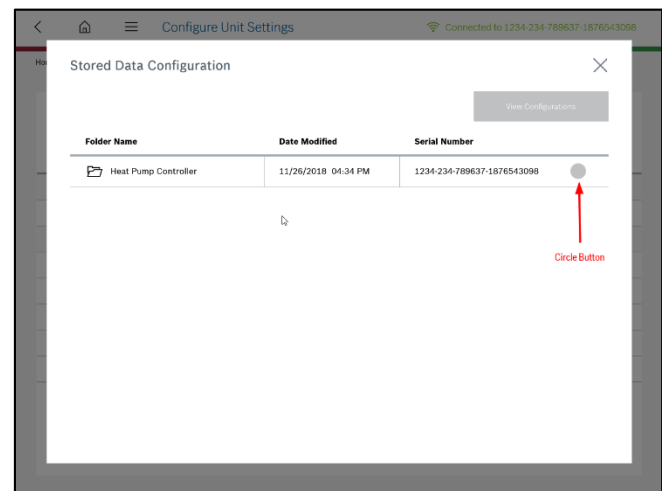

Figure 34: Saved Configuration
2. It will open up the page where the list of saved folders will be displayed. See figure 34.